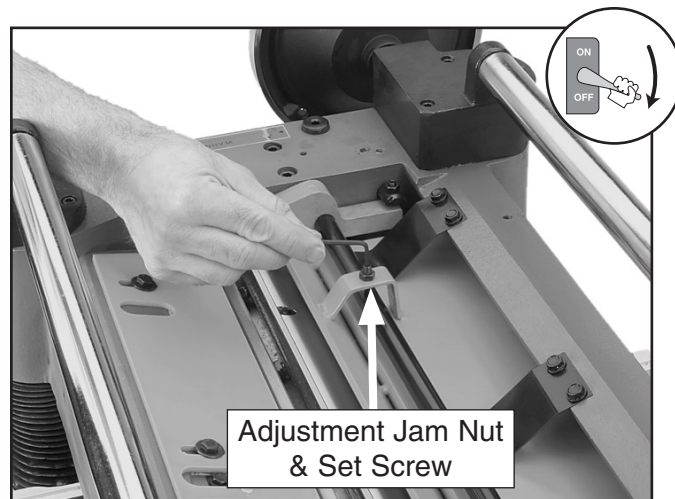

Figure 45. Adjusting the chip breaker height.
12. Use the same zero reference on the Rotacator dial from **Step 5**, perform similar steps as described above to adjust the height of the chip breaker to its recommended specification given at the beginning of this subsection. The adjustment controls are shown in **Figure 45**.